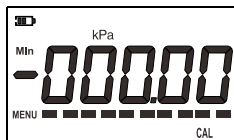

Figure5
- (2) Select **1 CAL** and push , the screen will display the lower range of this gauge as shown in Figure 5. The first digit will blink which allows the user to configure the calibration point by inputting the desired pressure value. If no adjustment is needed, just push  to continue;